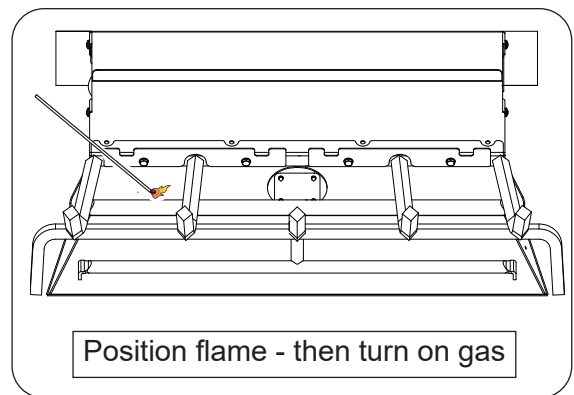

Fig. 12-1
3. Light a long-stem match or a long-necked butane lighter, and place the flame against the center of the top burner (Fig. 12-1).